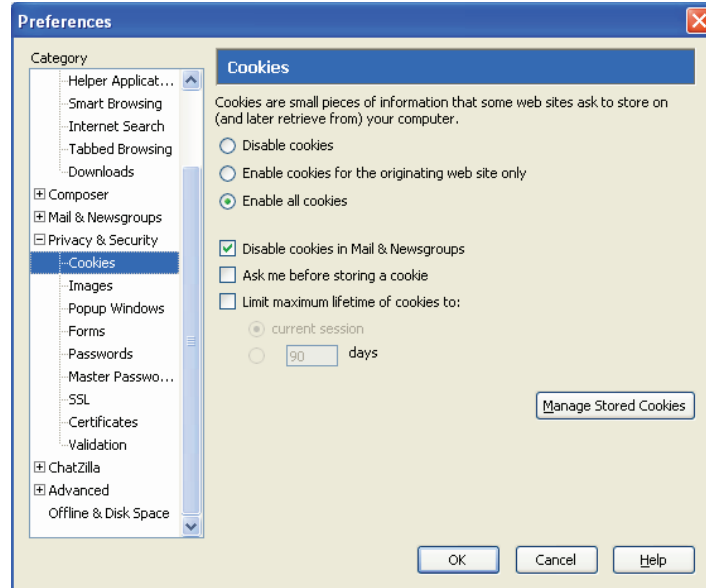

Figure 41. Cookie Preferences
2. To enable cookies, go to the **Privacy & Security** category and choose **Cookies** (see figure 41).